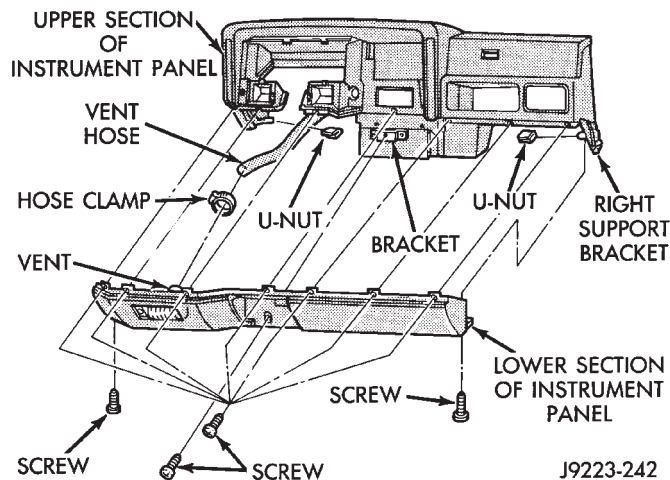

Fig. 15 Lower Section Of Instrument Panel Removal/Installation
(4) Remove the screws from the lower section of the instrument panel (Fig. 15).
(5) Remove the lower section of the instrument panel from the upper section.